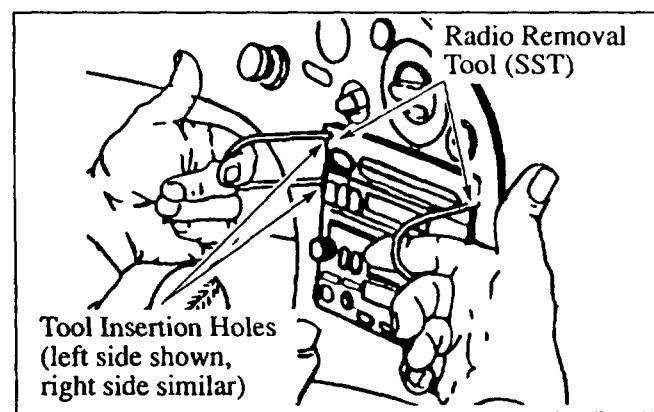

Figure 4: CD Player Removal
6. Push the stereo removal tool, SST (Part No. 49 UN01 050), into the holes on the sides of the CD player until it locks firmly. **Figure 4.**